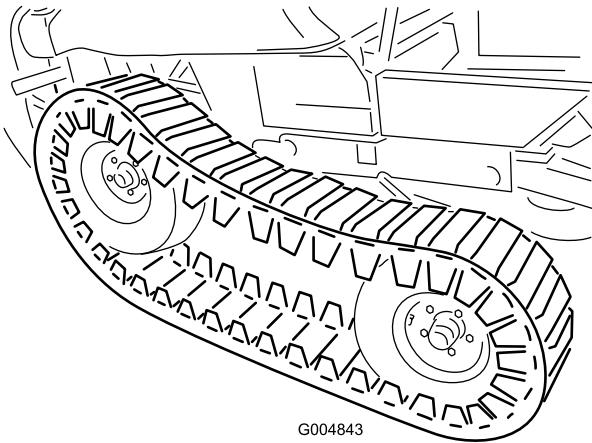

Figure 124
39. Adjust the floor jack to a suitable height to install the front tire. With a helper, lift the front of the track enough to carefully install the front tires (Figure 124).